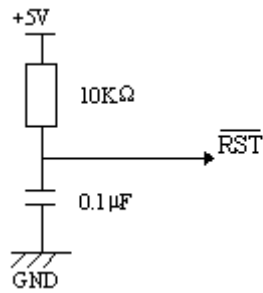

Figure 7.2: RESET Circuit
The RESET circuit shown in Figure 7.2 is recommended to correctly reset the HD61830(B). On RESET the internal registers of the HD61830(B) are cleared and the BUSY flag is reset, Display is turned off, $H_p=6$ and HD61830 is set for Slave mode (Refer to section 8 for detail).